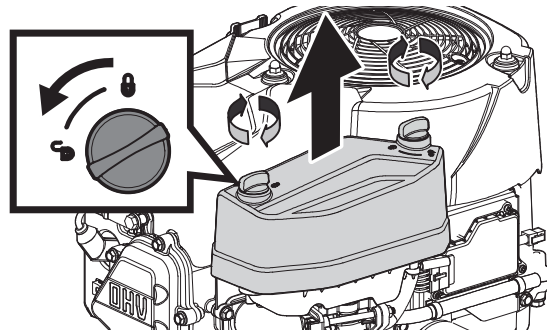

Figure 8
2. Remove the air filter cover (Figure 8).